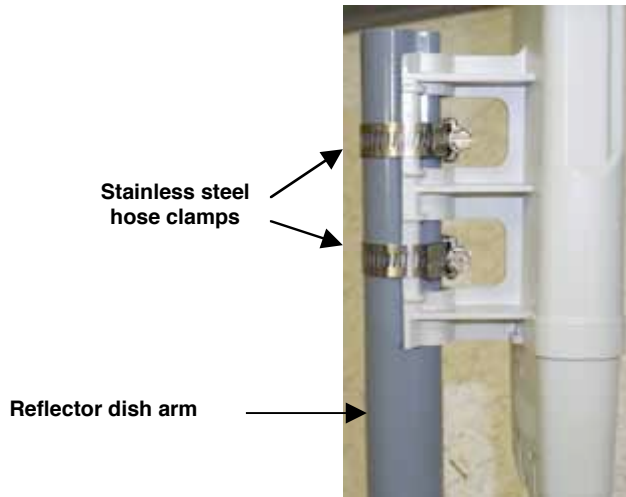

Figure 127: SM attachment to reflector arm
5. Optionally, attach the SM to the arm of the Canopy Passive Reflector dish assembly as shown in Figure 127.